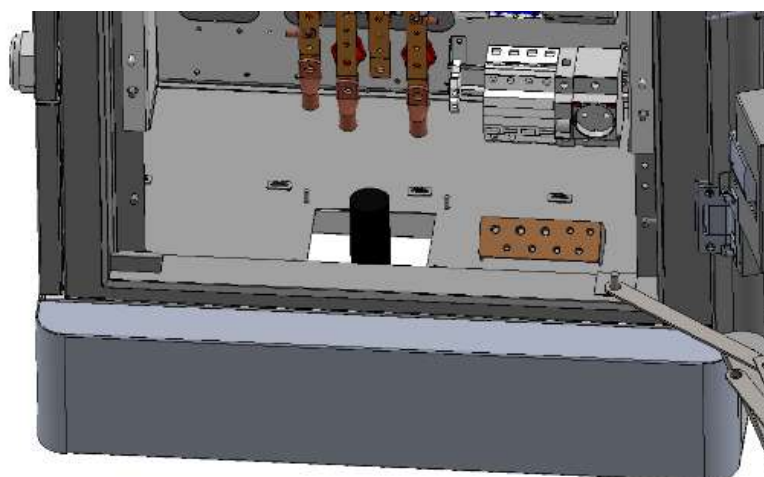
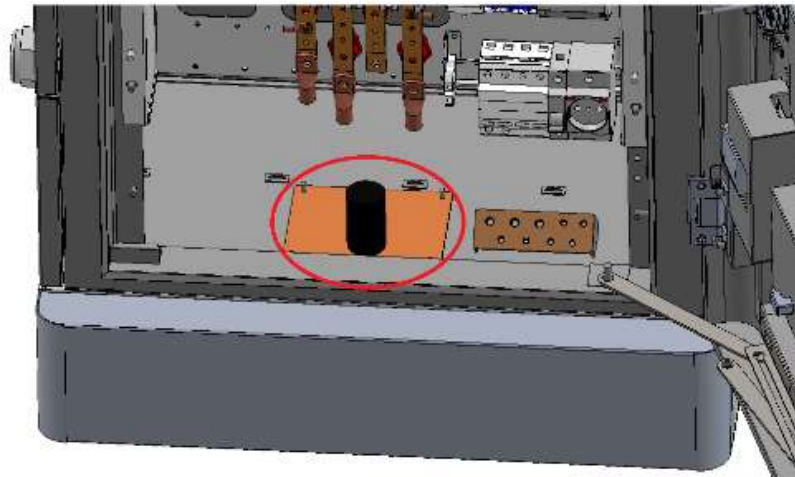

Figure 12 Hole before sealing
Figure 13 Hole after sealing
(1) Clean the dirt and debris at the cable inlet hole.
(2) Fill and block the cable inlet hole at the bottom with fire-proof mud (as shown in Figure 12, Figure 13), and make it into a regular shape.